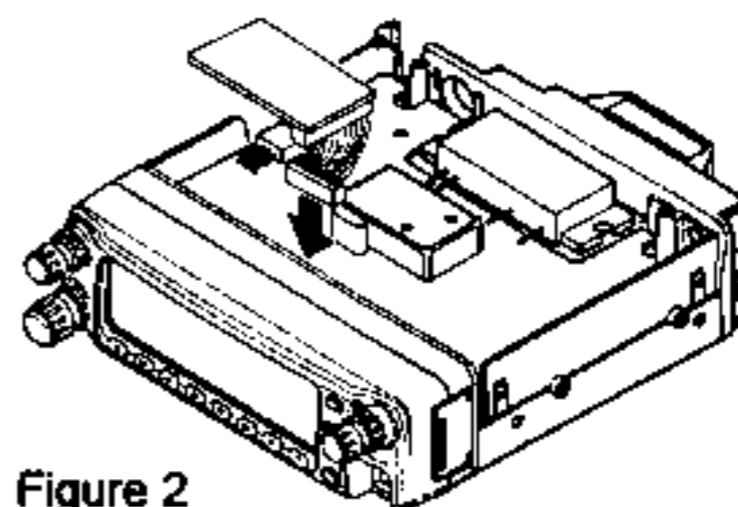

Figure 2
- Referring to Figure 2, locate the unused 12-pin connector just inside the front panel. Plug the FTS-22's cable into the connector.